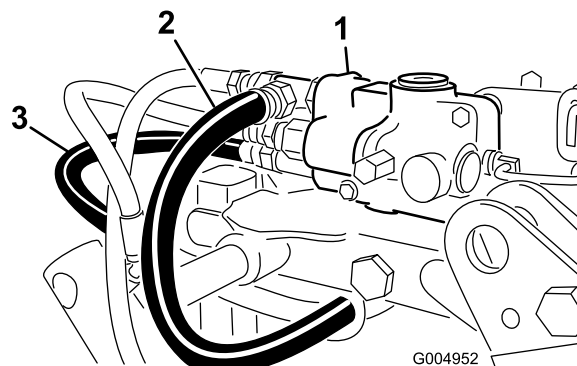

Figure 38
8. Disconnect the tank hose from the control valve (Figure 38). Install the cap from the winter kit valve into the control valve fitting and plug the hose with the plug supplied.
9. Disconnect the pressure hose from the control valve (Figure 38). Install the cap from the winter kit valve into the control valve fitting and plug the hose with the plug supplied.